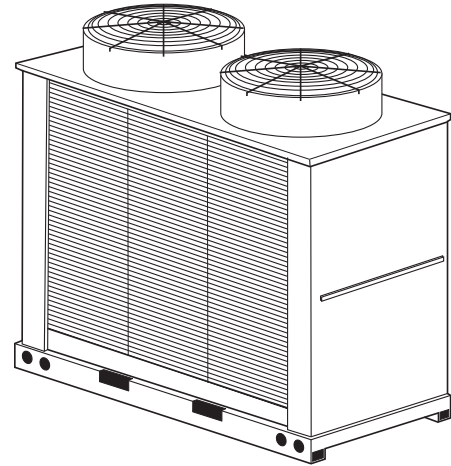

Fig. 4 — Sound Reduction Kit Installed
Step 7 — Mount the fan shroud/grille assembly on the fan deck using eight $\frac{1}{4}$ -14 x $\frac{5}{8}$ in. screws. Figure 4 shows the sound reduction kit installed on a 2-fan unit.